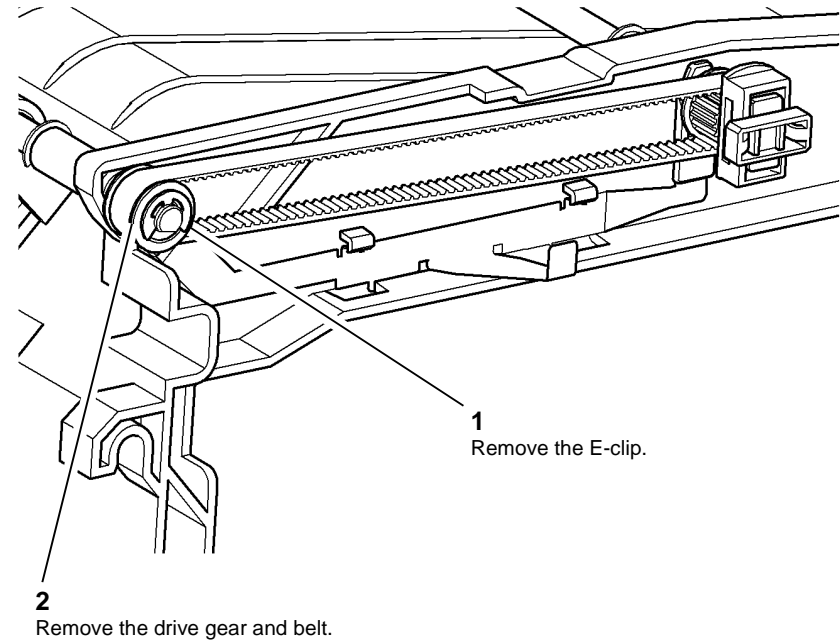

Figure 2 Preparation
3. Preparation to remove the transport roll assembly, Figure 2.